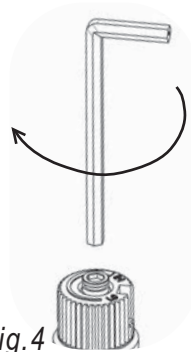

Fig. 4
- 20) Using the Allen wrench as shown in Fig.4, rotate the screw clockwise until snug, do not overtighten.